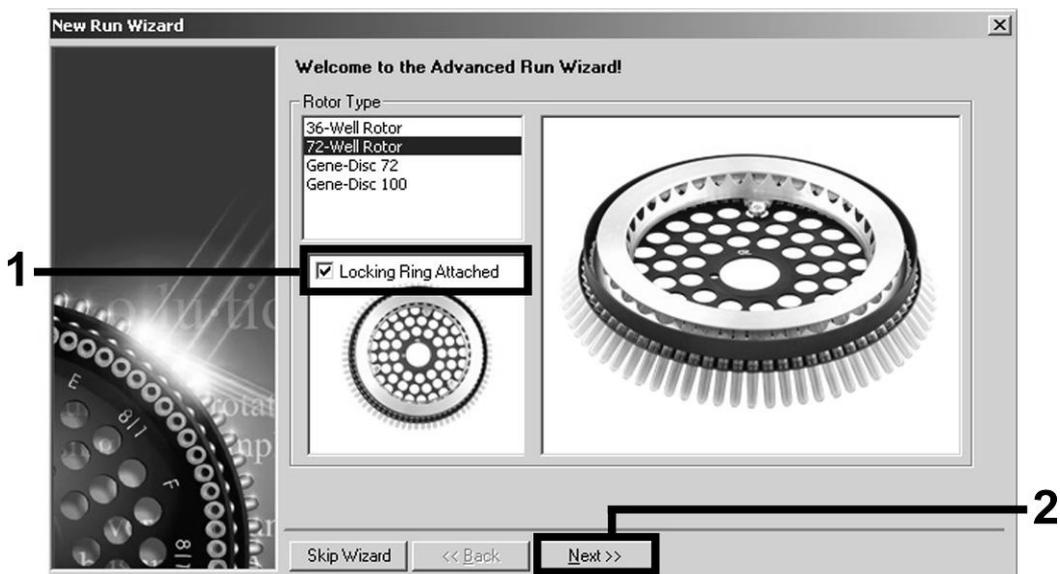

Figure 1. The "New Run Wizard" dialog box.
5. Open the "New Run Wizard" dialog box (Figure 1). Check the "Locking Ring Attached" box and click "Next".